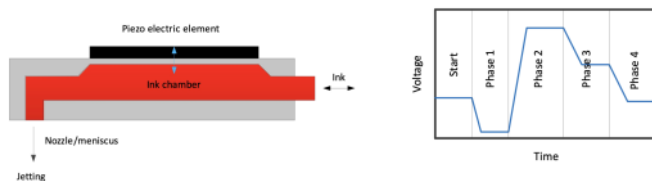

Figure 4. Schematic diagram of the print head and the waveform of Dimatix inkjet printer
The waveform controls electrical signal that stimulates the formation of drop and ejection from the nozzles. The waveform was customized to restrict the volume of the drop, so that 30-50 μm size Ag nanoparticle patterns were able to be printed. Figure 4 shows a schematic diagram of the print head and the waveform: (1) start, the ink chamber is depressed by a bias voltage; (2) phase 1, the voltage decreases to 0 V, so that the piezo electric element (PZT) moves